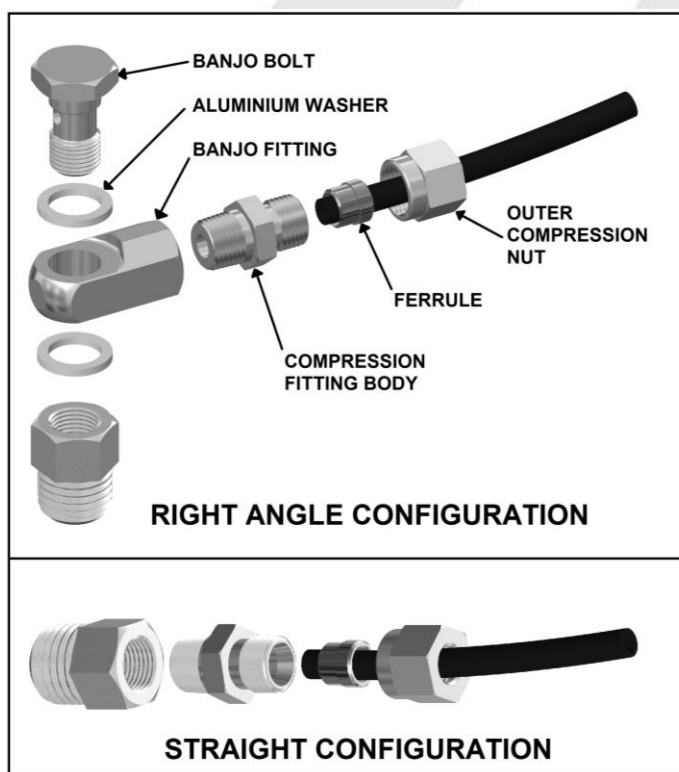

Figure 16.
- ☐ Assemble an aluminium washer onto the banjo bolt and insert through the banjo fitting. Assemble second aluminium washer and tighten into bulkhead fitting using a 14mm [9/16"] spanner. (Fig.16.)
- ☐ Insert the outer compression nut and ferrule over the air line. Ferrule should be orientated as per Fig.16.
NOTE : When right angle routing of the tube is not required, screw the compression fitting body straight into the bulkhead fitting body (Fig.16.).